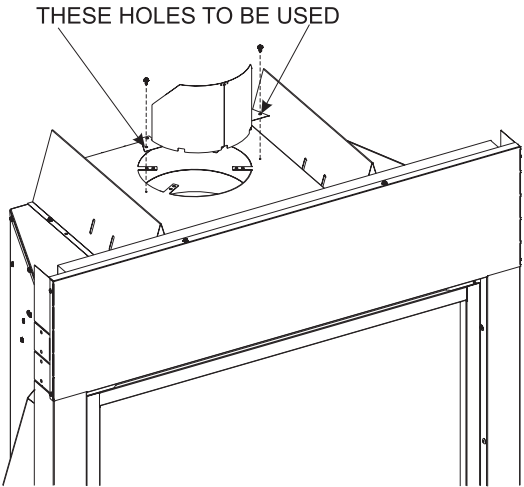

Figure 43
- Attach to insulation box as shown in **Figure 43**.